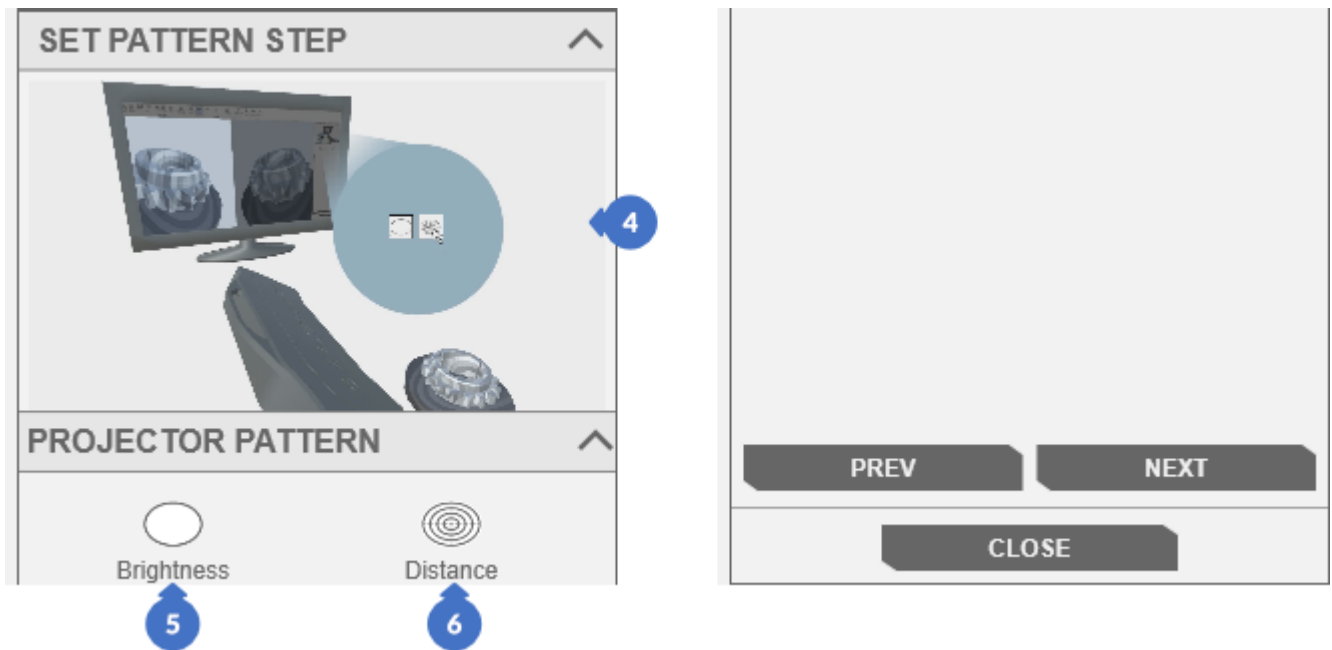

Figure 232. Choosing a projector pattern
The step *SET PATTERN STEP* is used to change the *Brightness* pattern (5) to the *Distance* pattern (6) (Figure 232).
When the projector's light is directed at an object, set the appropriate distance between the scanner and the object. This process is shown in the animation in *DISTANCE TO OBJECT STEP* (8) (Figure 235). You can notice that from the moment you turn on the target (*Distance*) pattern (6) (Figure 232) a green line appears in the preview of the left camera. It is used to set the appropriate distance. The correct distance between the scanner and the object is when the green line on the left camera aligns with the center of the cross pattern displayed by the projector.